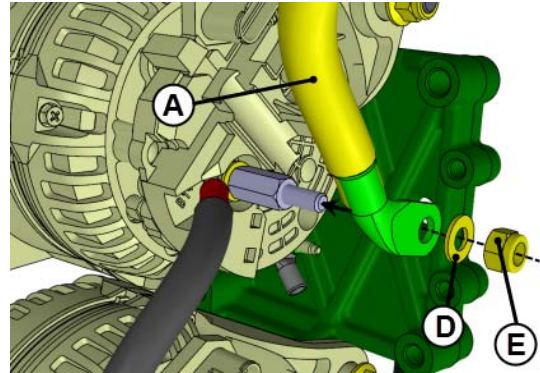

FIGURE 10
8. Reinstall power cable **A**. To do so, connect power cable **A** to the upper alternator **B1+** stud terminal. Refer to **FIGURE 10**.